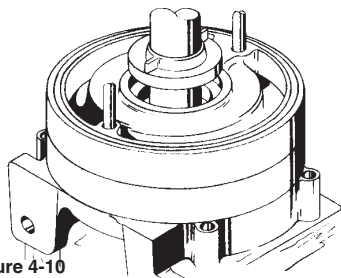

Figure 4-10
12. Slide an interstage bushing onto the shaft. The smooth wearing face should be installed against the ring (#9). (refer to figure 4-10)